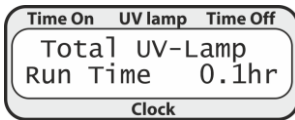

Figure 13. UV lamp run time
5.2.9 **UV lamp run time.** In default screen, press the ▼ key once to display the run time of the UV lamp (fig. 13). Display reverts back to default after 5 s or any key press.